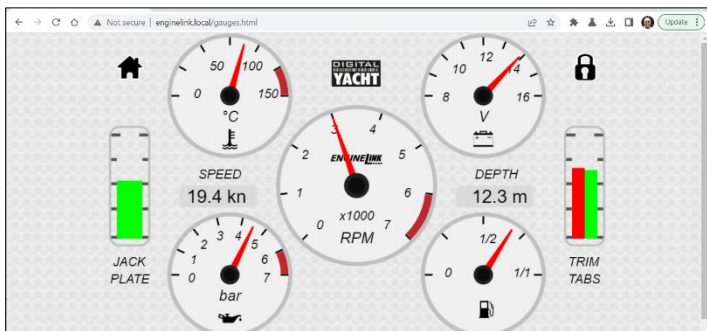

Figure 2
- On the Home page, click the GAUGES button and this page will be displayed (Figure 2).